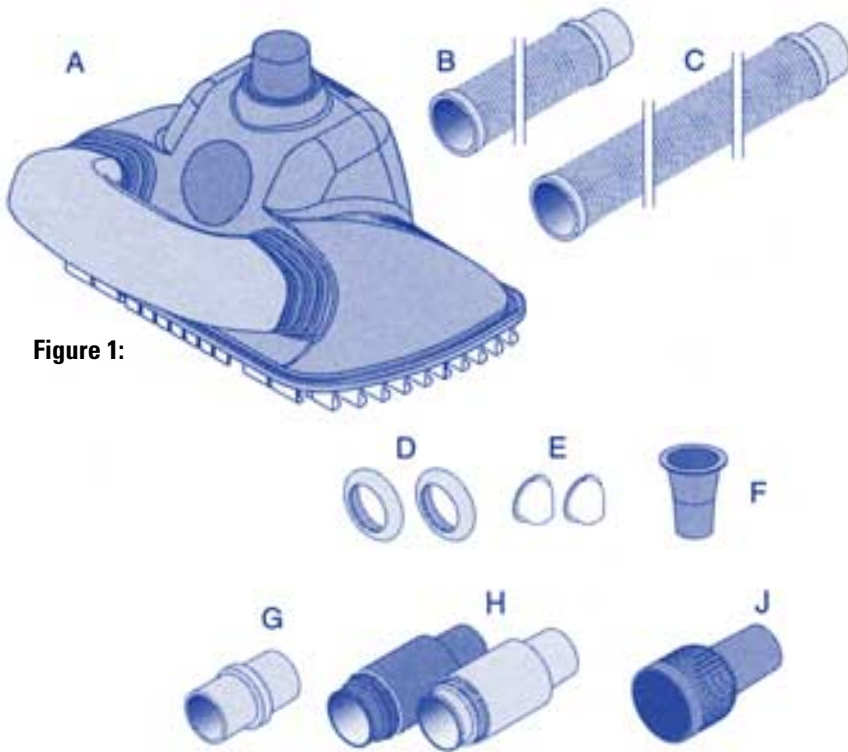

Figure 1:
- 1.** Remove the PoolShark® and all of its parts from the box and check to make sure that all the parts and components were included (see Figure 1).